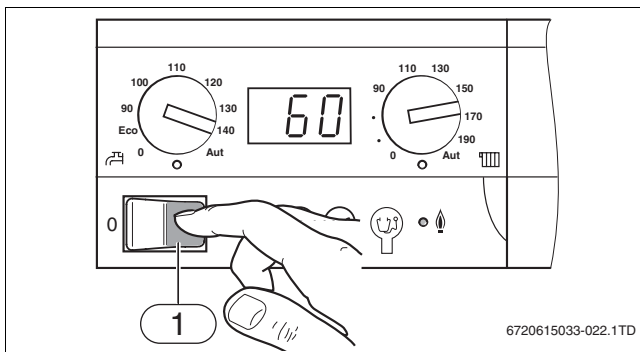

Fig. 19 BC 10 Main switch
- ▶ Switch on the heating system using the main switch (→ fig. 19, [1]).